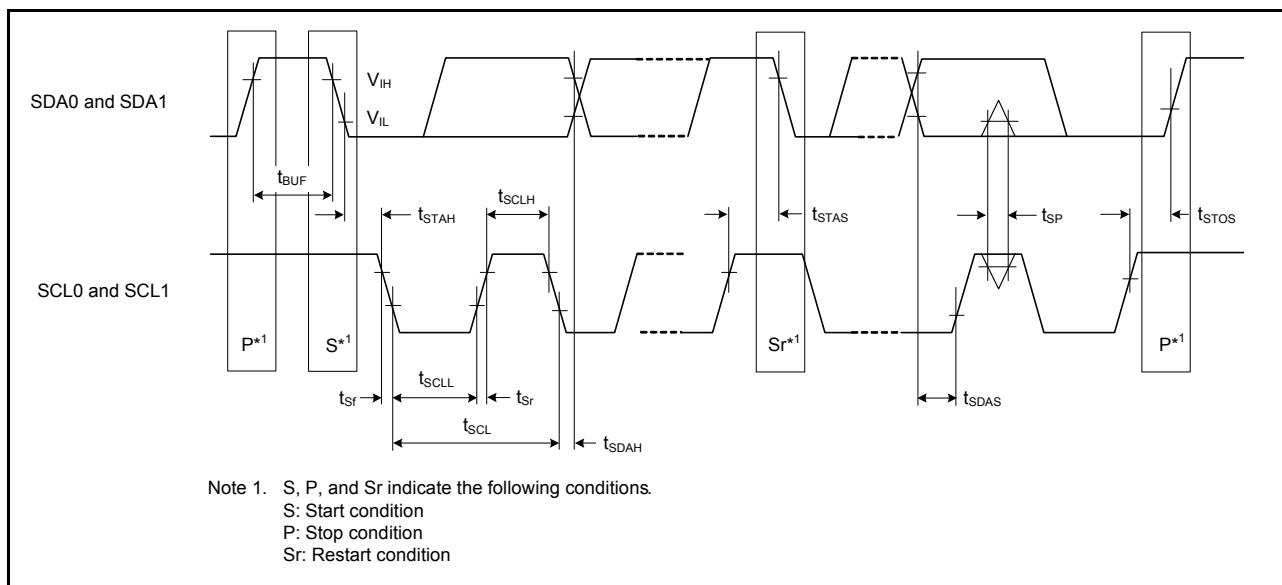

Figure 2.56 I²C bus interface input/output timing
| IIC (standard mode, SMBus) | SCL input cycle time | t_{SCL} | $6 (12) \times t_{IICcyc} + 1300$ | - | ns | Figure 2.56 |
| IIC*2 (Fast mode) | SCL input cycle time | t_{SCL} | $6 (12) \times t_{IICcyc} + 600$ | - | ns | Figure 2.56 |